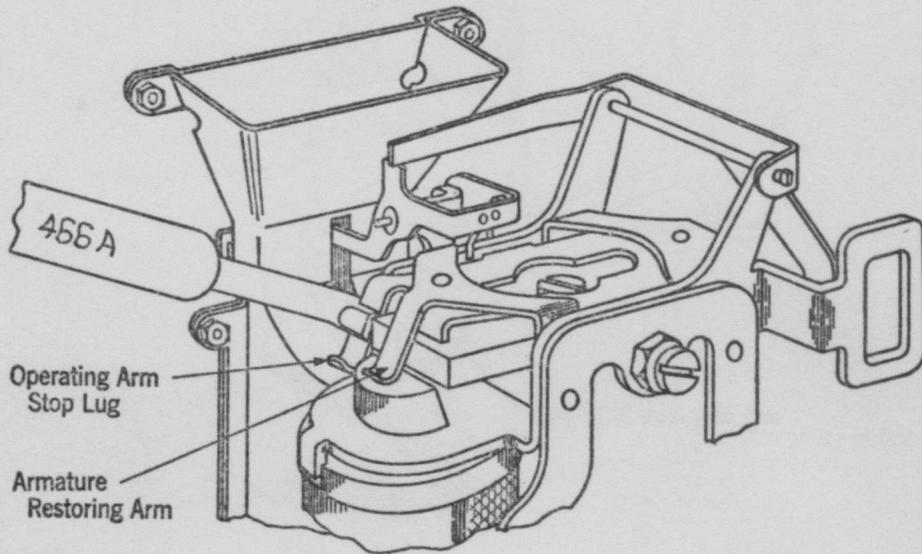

Fig. 15
- (a) Place the No. 466A tool on the operating arm stop lug as shown on Fig. 15 and adjust lug so that requirement is met.